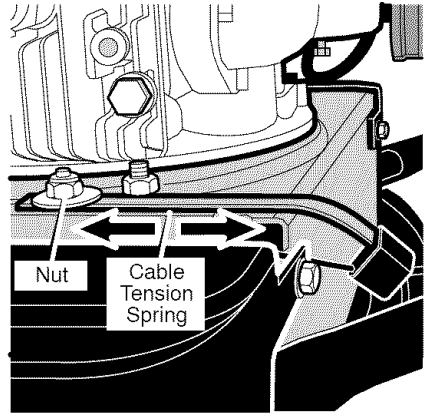

Figure 12
1. Loosen the **nut** that holds the **cable tension spring** (See Figure 12).